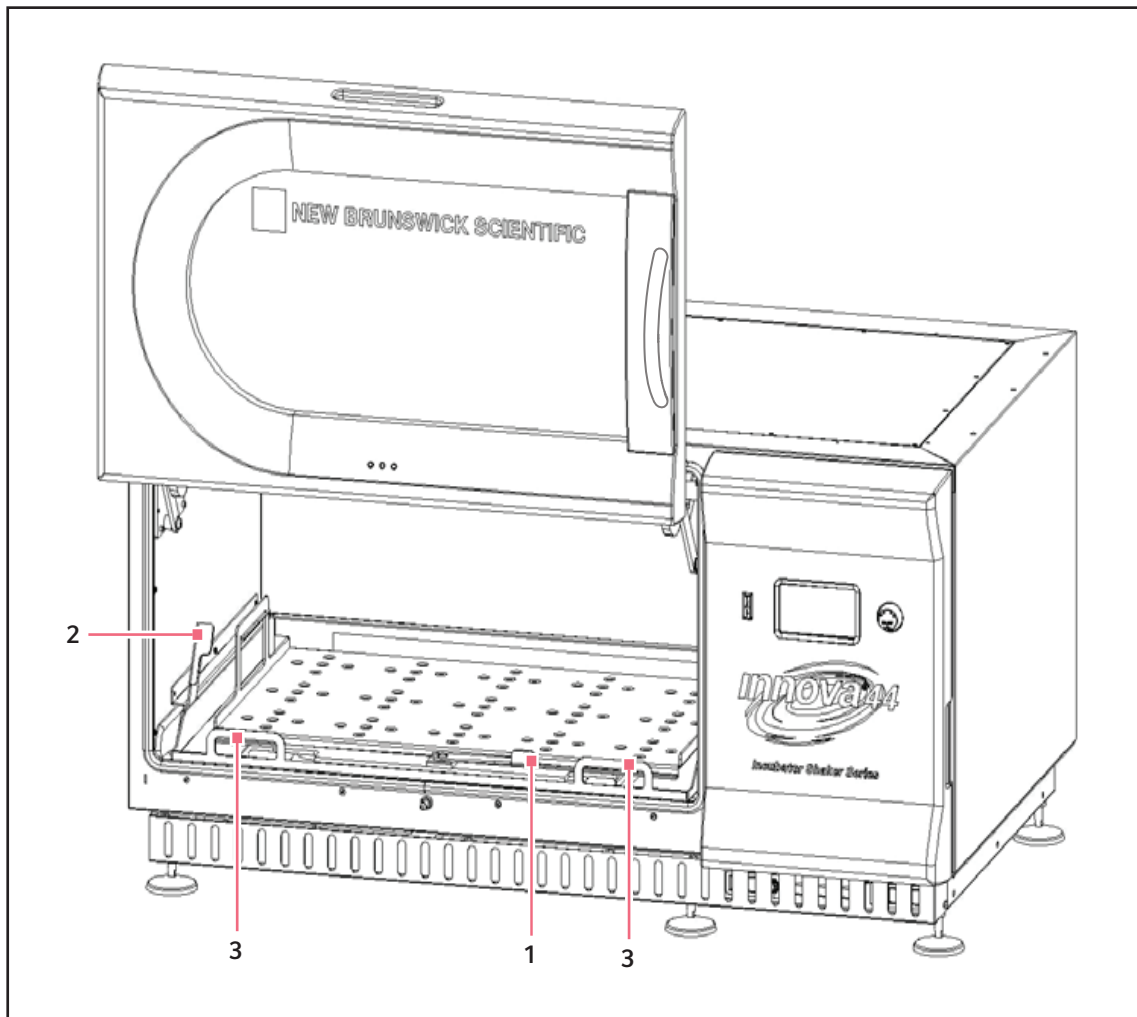

Fig. 9-16: Disengaging Slide-Out Platform
2. Rotate cam lever located on the subplatform (see Fig. 9-16 on p. 65) 180 ° clockwise. It should be pointing to the left.
3. Pull both side levers (see Fig. 9-16 on p. 65) down. This will disengage the platform from the subplatform.
4. Pull both handles on the slide-out mechanism (see Fig. 9-16 on p. 65) toward you. This will move the platform to an easily accessible position.